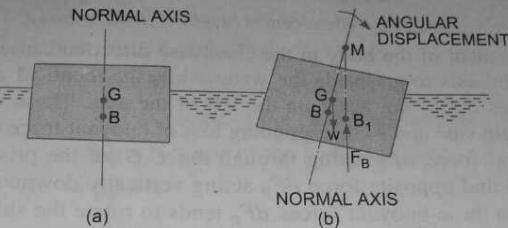

Fig. 4.5 Meta-centre
Consider a body floating in a liquid as shown in Fig. 4.5 (a). Let the body be in equilibrium and  $G$  is the centre of gravity and  $B$  the centre of buoyancy. For equilibrium, both the points lie on the normal axis, which is vertical.
Let the body be given a small angular displacement in the clockwise direction as shown in Fig. 4.5 (b). The centre of buoyancy, which is the centre of gravity of the displaced liquid or centre of gravity of the portion of the body submersed in liquid, will now be shifted towards right from the normal axis. Let it be at  $B_1$  as shown in Fig. 4.5 (b). The line of action of the force of buoyancy in this new position, will intersect the normal axis of the body at some point say  $M$ . This point  $M$  is called Meta-centre.
**Couple Due to Wedges.** Consider towards the right of the axis a small strip of thickness  $dx$  at a distance  $x$  from  $O$  as shown in Fig. 4.5 (b). The height of strip  $x \times \angle BOB' = x \times \theta$ .
But from Fig. 4.5 (c) it is clear that  $2 \int x^2 dA$  is the second moment of area of the plan of the body at water surface about the axis y-y. Therefore